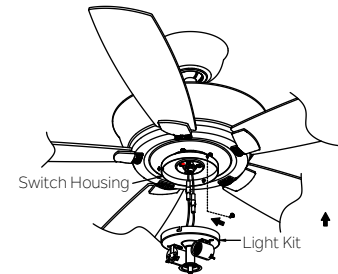

Fig. 23
Step 3. Tuck the connections neatly into the light kit. Align the slot holes on the light kit and switch housing. Rotate the light kit until it locks in place at the narrow end of the key holes. Securely by tightening the 2 screws previously loosened and the one previously removed. (Fig. 23)